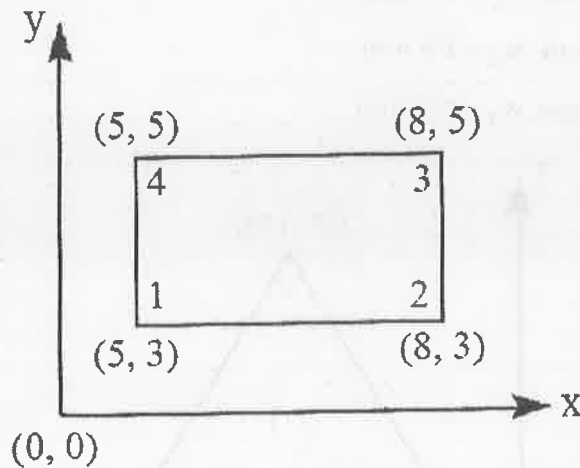

Figure. 4
13. (a) For a four noded rectangular element show in Figure 4, determine the temperature at the point $(7, 4)$. The nodal values of the temperature are $T_1 = 63^\circ\text{C}$, $T_2 = 81^\circ\text{C}$, $T_3 = 84^\circ\text{C}$ and $T_4 = 69^\circ\text{C}$.